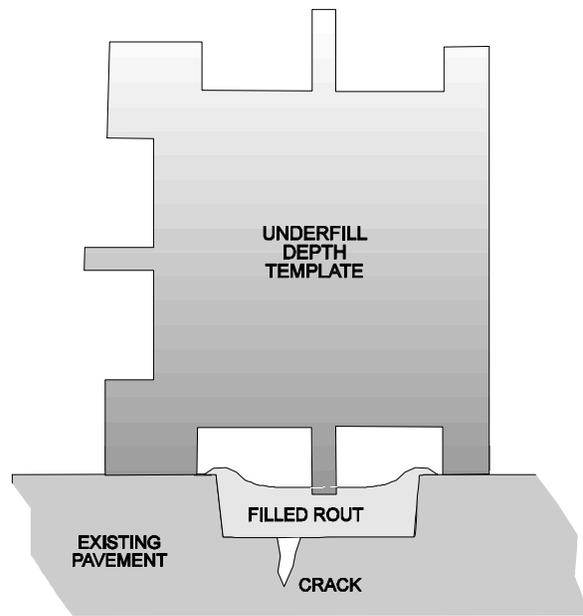

FIGURE 5
3. Place the underfill depth template at the start of the test site across the filled rout, as shown in Figure 5.